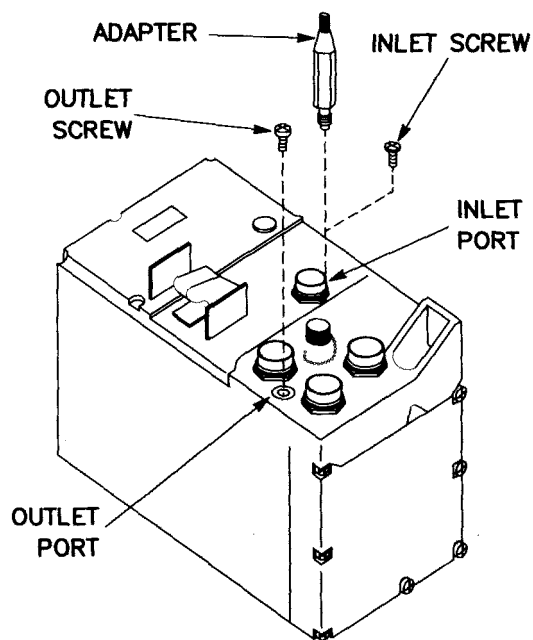

Figure 3-43 AN/VVG-2 Electronics Unit
(3) Optics Compartment. Refer to para 3-12.b.(1) for procedures.
(4) Laser Electronics Unit (fig. 3-43).